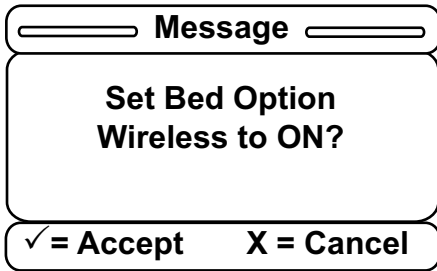

Figure 44 – Confirmation screen
20. After you select one of the items, a confirmation screen will be displayed. The confirmation screen text will vary based on the item that you selected. The confirmation screen indicates that you set the Awareness option to ON (Figure 44). Press **Enter** on the footboard panel to confirm your Wireless option or **Exit** to cancel the operation.